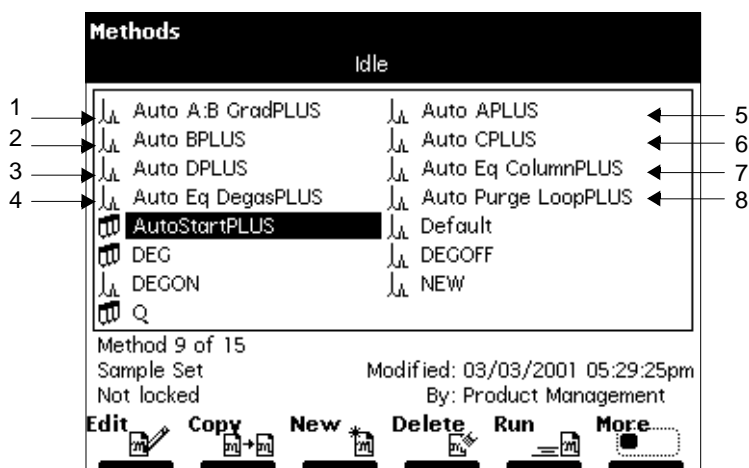

Figure 3-24 Methods Screen with AutoStartPLUS Selected
- Eight AutoStartPLUS separation methods, as shown in Figure 3-24.